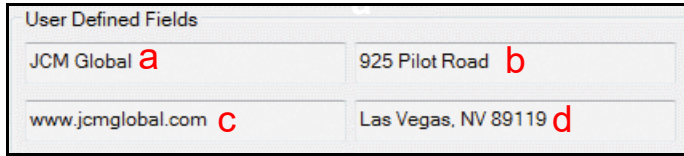

Figure 10 DSA Main Screen User-Defined Fields Group
The User-Defined Fields Group (Figure 10) includes four (4) data entry fields:
- User Defined Fields: Each of the four (4) data entry fields (Figure 10 a-d) can accept a user-specified alphanumeric string parameter of up to twenty-eight (28) characters in length. These four fields support customized Ticket Printouts when the Docking Station is used in conjunction with a Ticket Printer. The fields can be used for identifying the Site Name, Address, Website Address, Phone Number or any other information desired to be printed on the Ticket by the User.
**NOTE:** When the DSA Application is first started, the four data fields will be blank (empty). By clicking on the RELOAD button on the DSA Main Screen, the data fields will fill with the character strings last entered and set by the user. The entries shown in Figure 10 (and in Figure 22 on page 22) represent the default character strings set when a user resets the Docking Station to Factory Defaults.